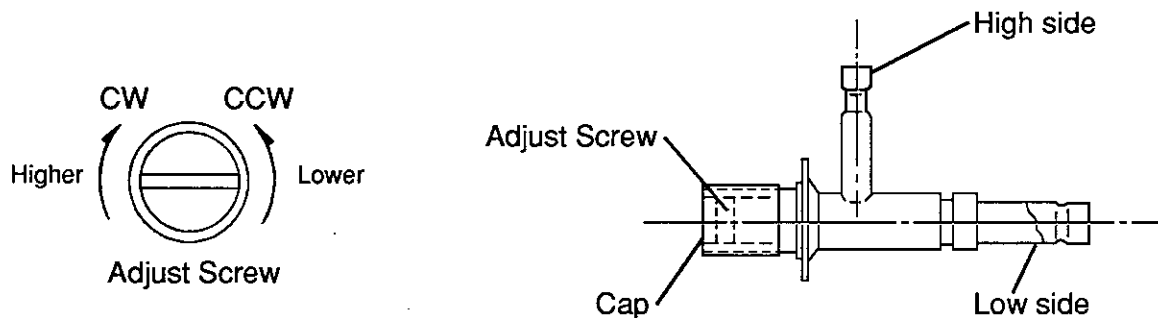

Fig. 34
- 2) Adjust the Constant Pressure Expansion Valve so that the Thermometer can show the values indicated in Fig. 34 - 37. A frost line should be in front of the Compressor Inlet Pipe. Note that this target is a center of temperature fluctuation.